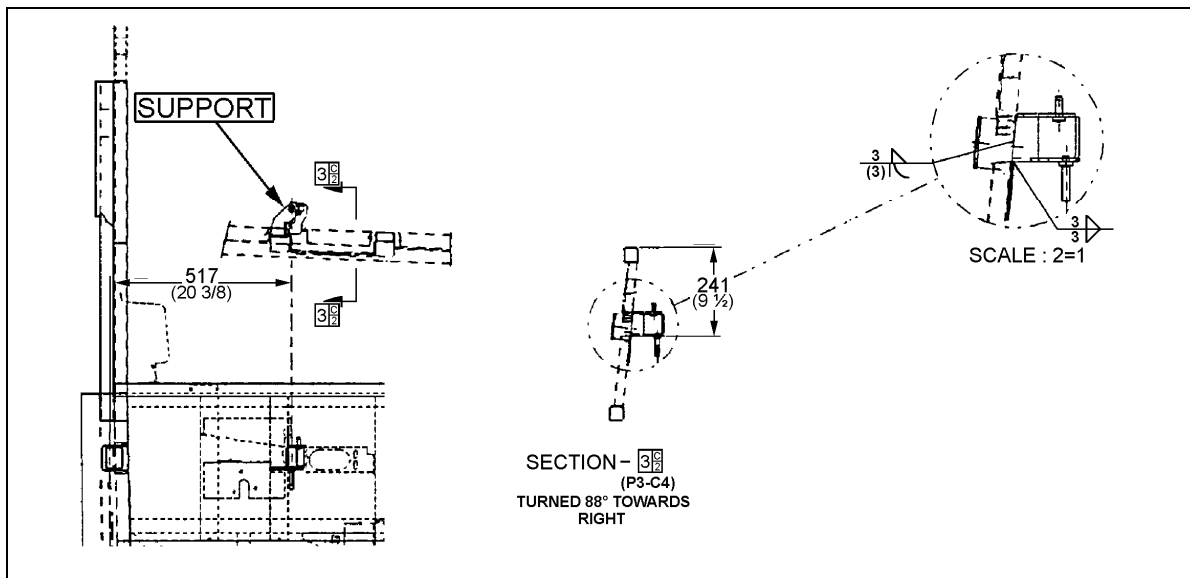

FIGURE 5: INSTALLATION OF SUPPORT ON VEHICLE'S FRAME
6. Because of material thickness, it is recommended to use a semi-automatic electric arc welding in accordance with the following specifications to weld support (Prevost #214129) (refer to figure 5):